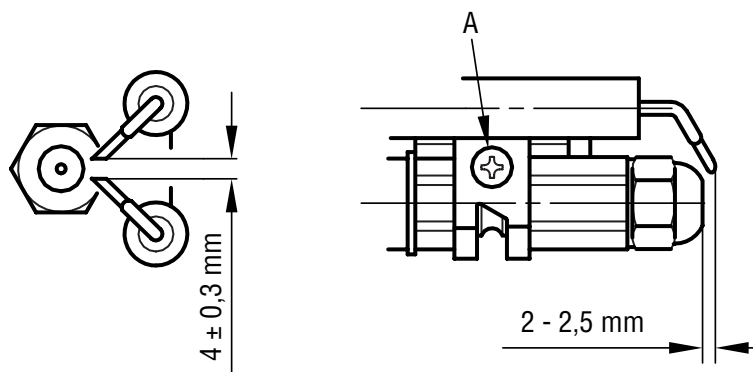

Fig. 17
4.7.2 Cleaning combustion head (fig. 17)
The combustion head is cleaned in the following manner (fig. 17):
- Loosen the fixture screw (A fig. 17) of the electrodes support and remove it.